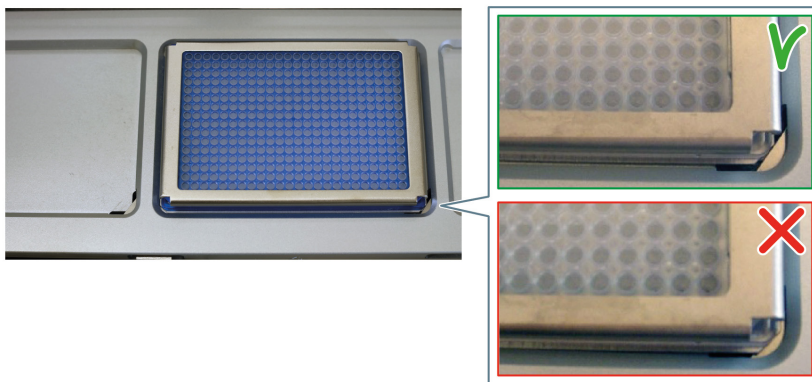

Figure 18. Correct and incorrect placement of the magnetic clamp booster
2. Place the magnetic clamp booster including the plate in the correct position (shown in the software) of the Mosquito® deck. Insert the corners of the magnetic clamp booster under the small metal holders of the Mosquito® deck as shown in Figure 18. This applies to all plate positions of the Mosquito® deck.